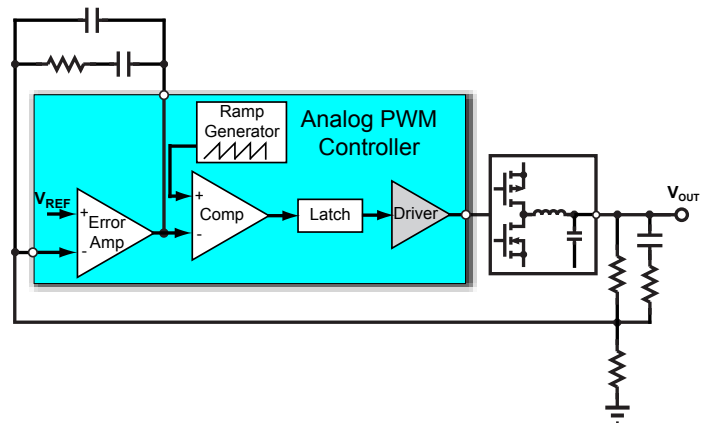

Figure 2.1 : Analog Feedback and Control Loop¹
How the power supply IC's feedback and control loop is implemented determines whether the power supply IC is an analog or a digital power IC. A power supply converts a fixed or variable input voltage or current to a fixed output voltage or current. For example, to maintain a fixed output voltage (V_{OUT}), a portion of the output voltage is fed back to the control loop and compared with a set point reference; the difference in these two parameters is called the error signal (see Figure 2.1). If any change in the output condition, such as a step change in the output current, causes V_{OUT} to deviate from its desired output voltage setting then the error signal causes the control loop to either increase or decrease V_{OUT} until it reaches the pre-set output voltage. The IC accomplishes this by controlling the amount of time the power transistor is on or off. If V_{OUT} is low then the power transistor stays on longer until V_{OUT} reaches the pre-set output voltage; conversely if V_{OUT} is high then the power transistor is off longer until the output is discharged and V_{OUT} reaches the pre-set output voltage. The modulation of the driver's pulse width as described above is called Pulse Width Modulation (PWM). In an analog power supply, the feedback and control loop is analog as shown in Figure 2.1.
1. Figure 2.1 and 2.2 are copyrighted materials owned by Ericsson AB and its affiliates. They are reproduced by permission with the authorization and courtesy of Ericsson AB.